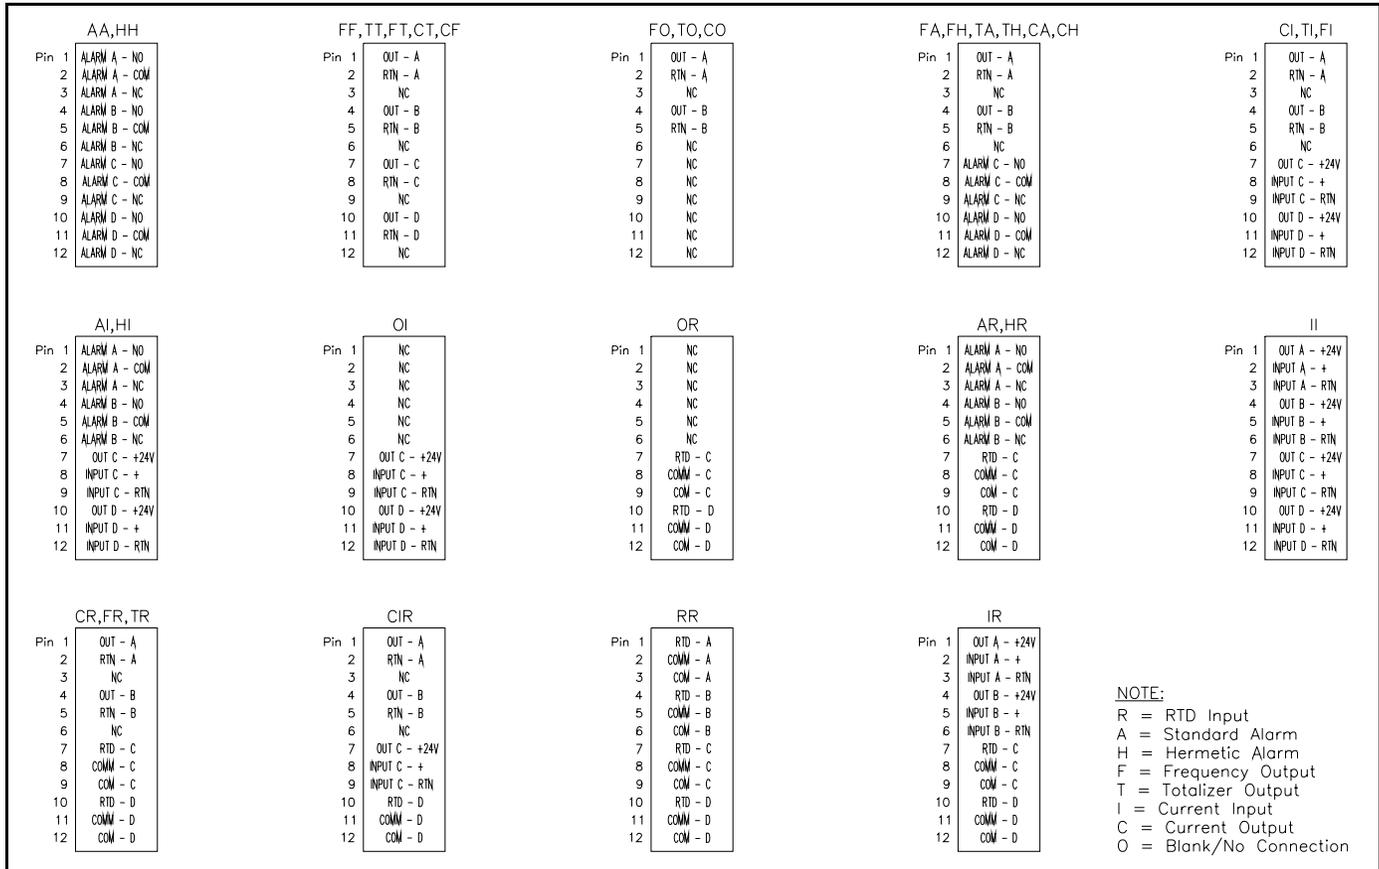

Figure 1-3: Option Card I/O Connections
Prepare for the calibration procedure by connecting the RTD temperature transmitter to the desired input (A, B, C or D) on the option card. See Figure 1-3 on page 1-12 to identify the RTD(+) and COM(-) pins for the desired input on terminal block J2.
**IMPORTANT:** *The procedure for calibrating all the inputs is the same. However, when calibrating a different input, be sure to reconnect the current source at terminal block J2. See Figure 1-3 on page 1-12 for the correct pin numbers.*
- Preparing for Testing Prepare for the testing procedure by connecting an ohmmeter to the NO and COM pins of the desired alarm on the option card. See Figure 1-3 on page 1-12 to identify the NO, NC and COM pins for the desired alarm on terminal block J2.
- IMPORTANT:** *The procedure for testing all the alarms is the same. However, when testing a different output, be sure to reconnect the ohmmeter at terminal block J2. See Figure 1-3 on page 1-12 for the correct pin numbers.*
Prepare for the testing procedure by connecting a frequency counter to the desired output of the option card. See Figure 1-3 on page 1-12 to identify the OUT(+) and RTN(-) pins for Output A on terminal block J2.
**IMPORTANT:** *The procedure for testing all the outputs is the same. However, when testing another output, be sure to reconnect the frequency counter at terminal block J2. See Figure 1-3 on page 1-12 for the correct pin numbers.*
Prepare for the testing procedure by connecting a frequency counter to the desired output on the option card. See Figure 1-3 on page 1-12 to identify the OUT(+) and RTN(-) pins for the desired output on terminal block J2.